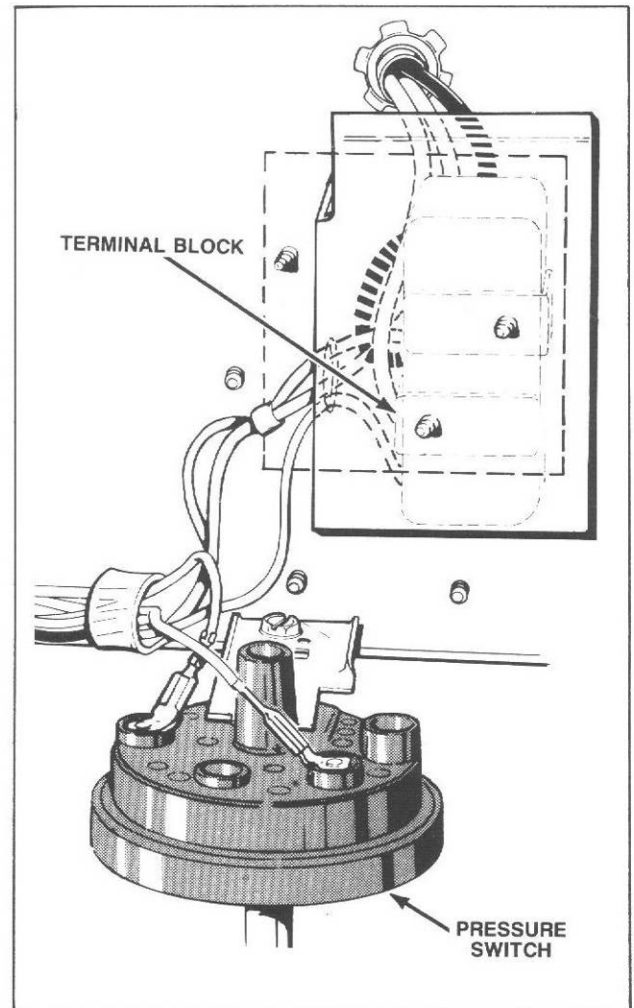

Figure 20
**20. TERMINAL BLOCK** (Refer to Figure 20)
**21. PRESSURE SWITCH** (Refer to Figure 20)